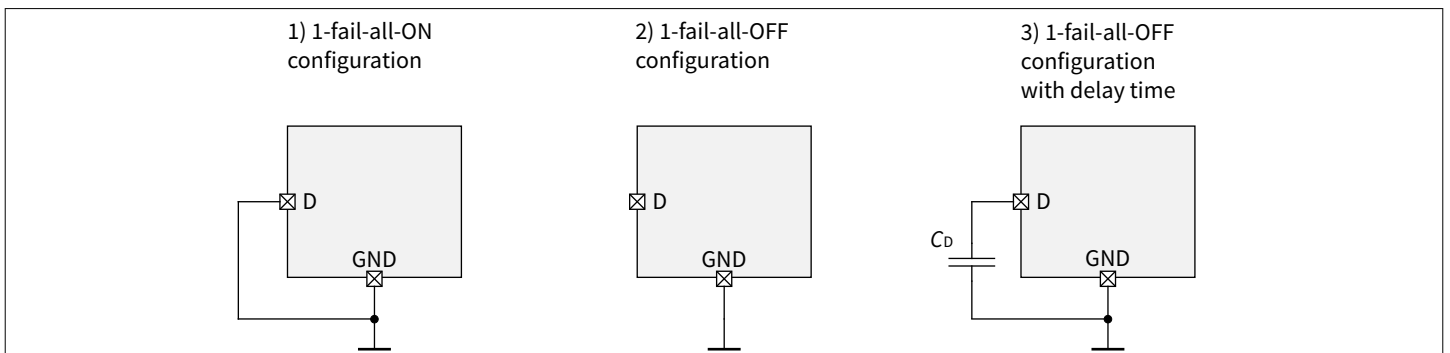

Figure 14 D pin configurations
- To react to error conditions in LED arrays according to the implementation fault management policy, in systems where multiple LED chains are used for a given function as illustrated in Figure 14